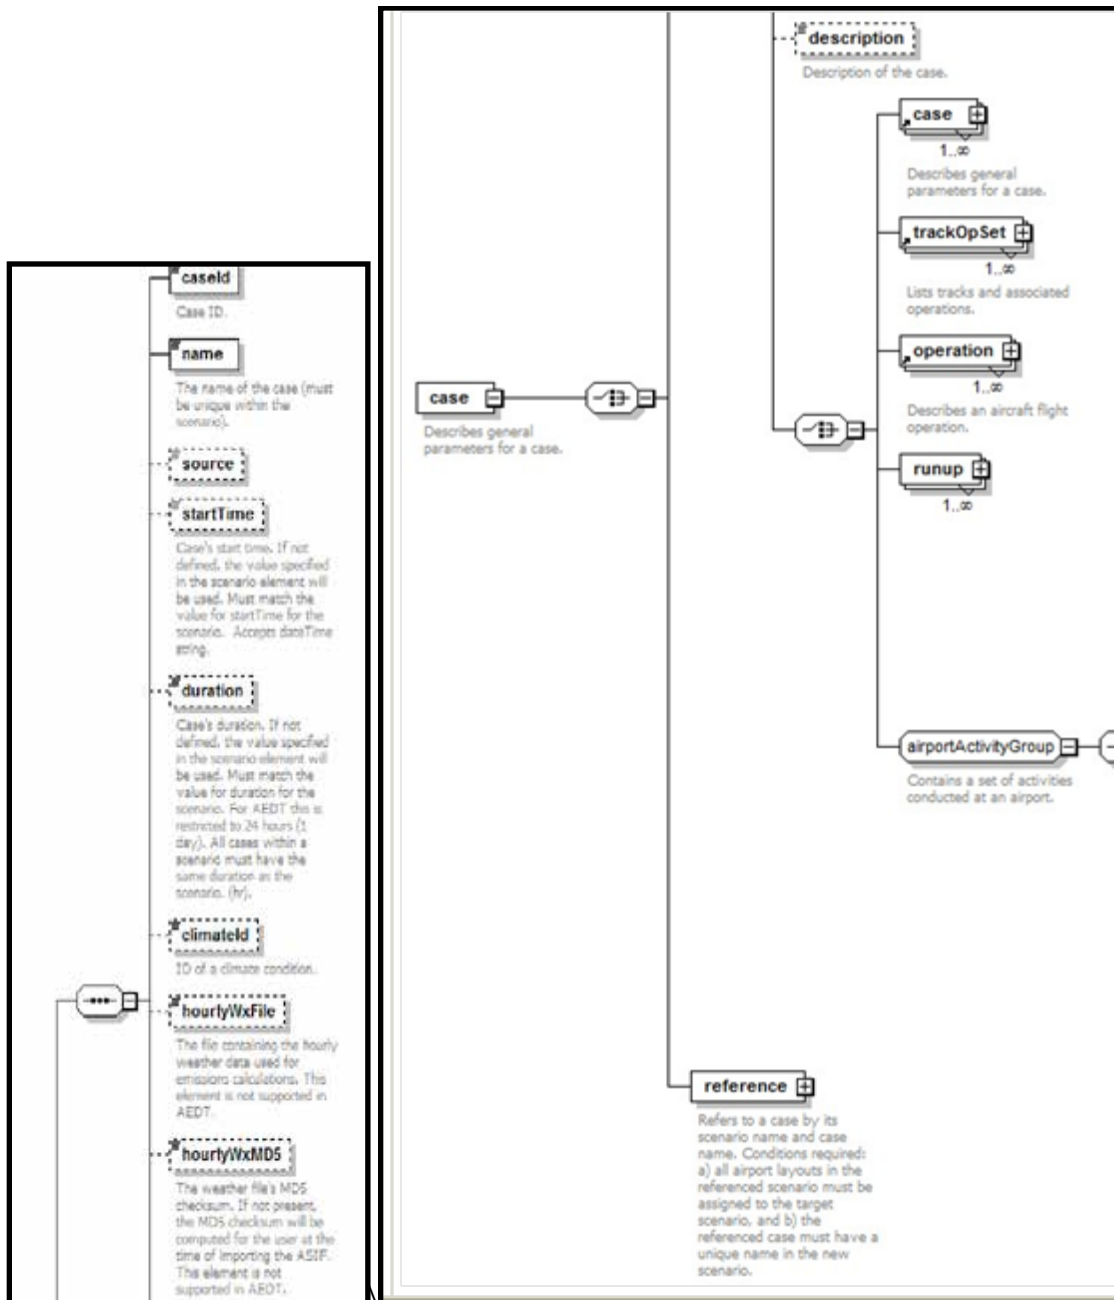

Figure 52. XML element case
7. AsifXml/study/scenario/case (Figure 52):